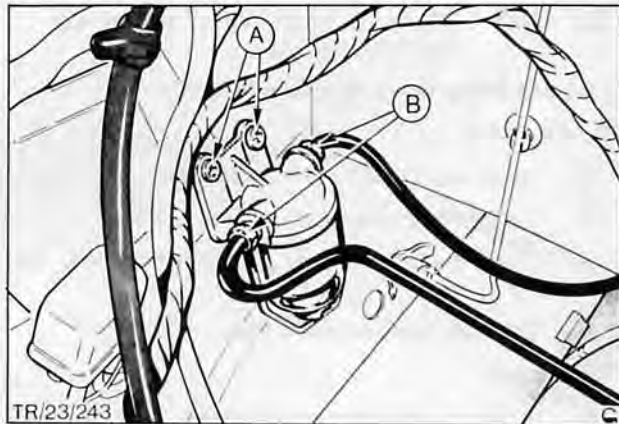

Fig. 70. Fuel line filter assembly
3. Disconnect filter inlet and outlet pipe connections, Fig. 70.